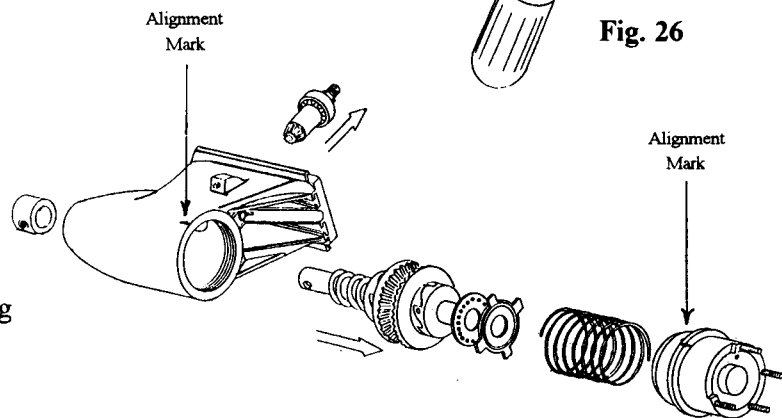

Fig. 27
Spring pressure should eject the mainshaft assembly. Fig. 27. Wash parts in kerosene for inspection.
- Fit O-ring #40906 onto end cap #40640. Fill end cap with 60cc (half of bottle #40933) soft self levelling grease. Fit large diameter spring #40668 into end cap (See Fig. 27 Page 13). Push end cap over end of shaft and screw end cap counterclockwise (lefthand thread) until nearly tight and end cap and main body #40823 marks A line up. See Fig. 27.
Fit 3 push rods. Lightly grease inner ring of handle #40632, fit washer #40643 & return spring #40662 and slide over end cap. Pre-grease back plate assembly #40636 and fit over 4 studs and screw up. (Reverse of Page 13 instructions). Also see Fig. 25. You may have to adjust the end cap slightly so that back plate assembly lines up with the body of the Drill Attachment (See Fig. 27 for small line up marks "A" on end cap and on main body).